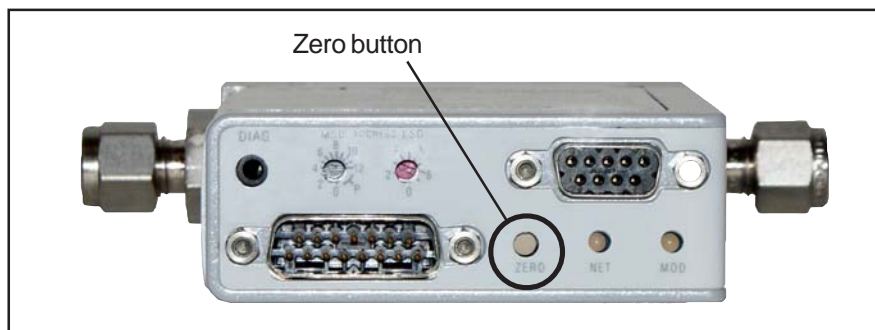

Figure 2-4 Zero Button Accessible at Top of Device
2. Press and hold down the Zero button, shown in Figure 2-4, for a minimum of 5 seconds.